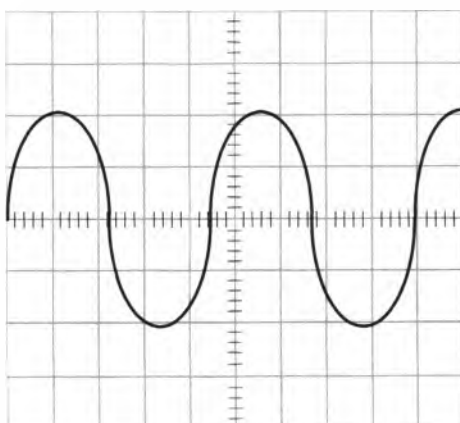
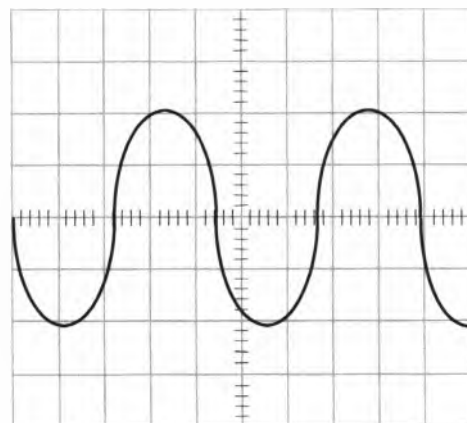

Figure 9
Figure 10
7. What oscilloscope control would you adjust to change the display from Figure 9 to Figure 10?